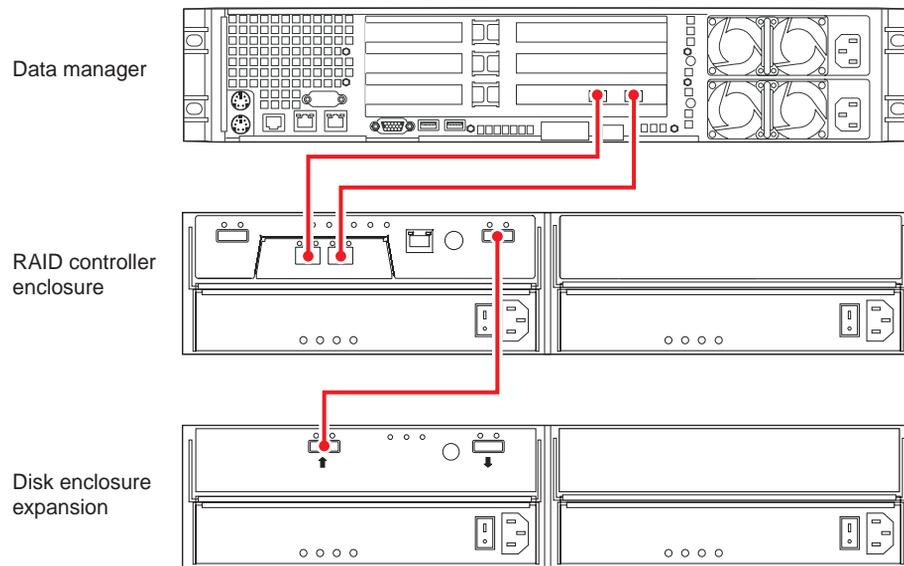

Figure 1-13 Data Manager, Single-Controller RAID Enclosure and One Disk Expansion
Use the following steps and Figure 1-13 to cable a data manager to a single-controller SATA RAID enclosure with one disk expansion enclosure.
1. Connect the Data Manager's Fibre Channel PCI card port A to the RAID controller's host 1 port in the controller enclosure, see Figure 1-13.